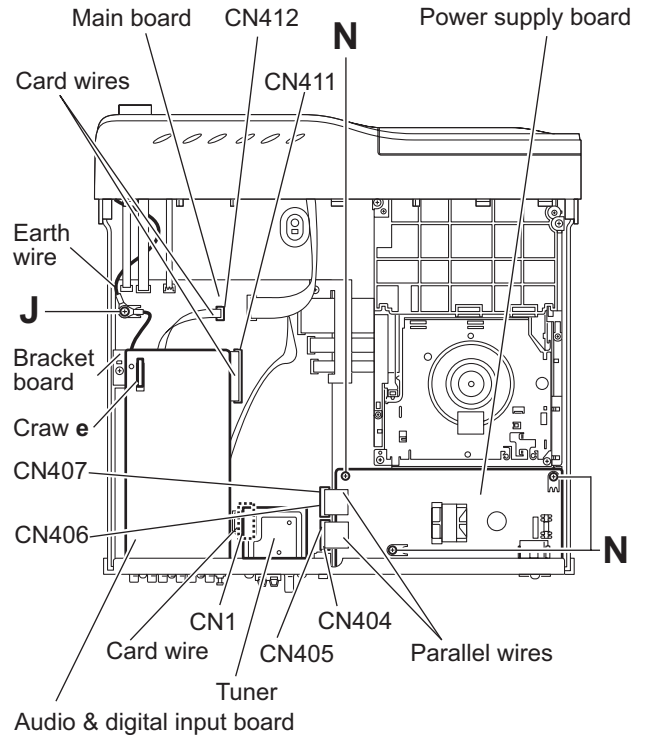

Fig.9
3.1.5 Removing the audio & digital input board (See Figs. 9 and 10)
- (1) From the top side of the main body, disconnect the card wires from the connectors (CN411, CN412) on the main board. (See Fig. 9.)
- (2) Remove the screw J attaching the earth wires to the main board. (See Fig. 9.)
When attaching the screw J, attach the earth wires with it. (See Fig. 9.)
- (4) Move the audio & digital input board in the direction of the arrow, and release the claw e of bracket board. (See Fig. 9.)
- (5) Take out the audio & digital input board from the main body.
3.1.6 Removing the tuner (See Figs. 9 and 10)
- (1) From the top side of the main body, disconnect the card wire from the connector CN1 on the tuner. (See Fig. 9.)
3.1.7 Removing the power supply board (See Figs. 9 and 10)
- (1) From the top side of the main body, disconnect the parallel wires from the connectors (CN404 to CN407) on the main board. (See Fig. 9.)
- (2) Remove the three screws N attaching the power supply board. (See Fig. 9.)